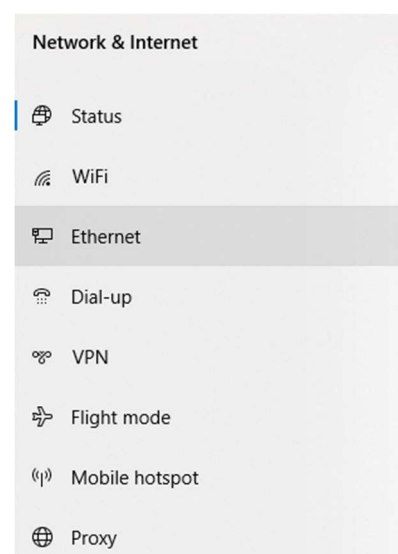

Fig. 3
4. Choose Ethernet (Fig. 3) and the menu will open (Fig. 4).